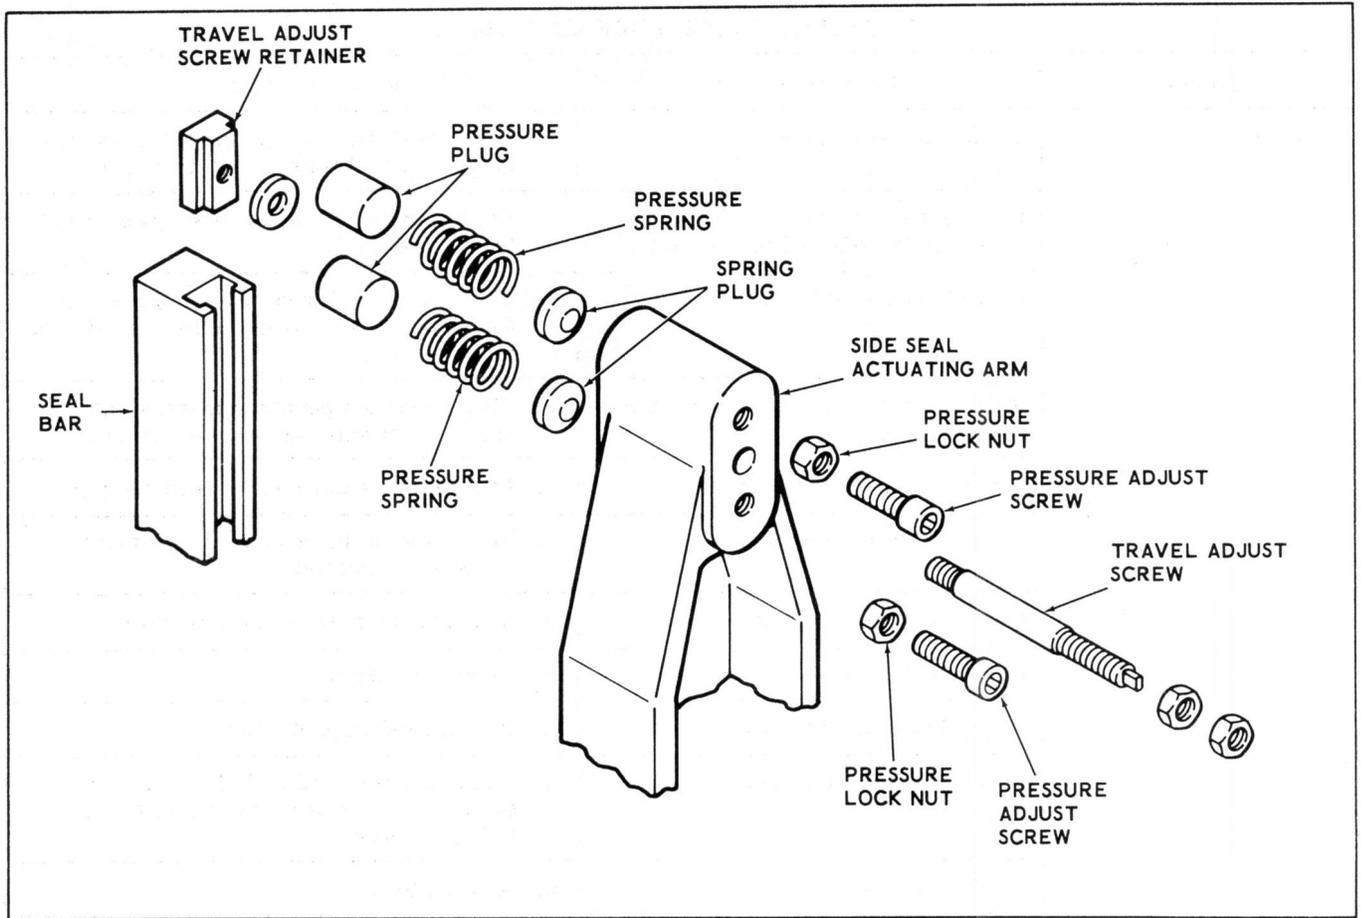

Figure 3-22. Replacing Side Seal Bars
b. Loosen pressure lock nuts (Figure 3-22) and turn pressure adjust screws in side seal actuating arm to relieve spring pressure against seal bar.